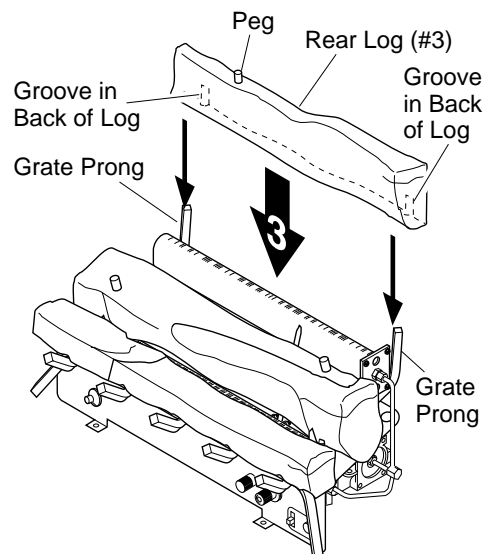

Figure 19 - Installing Rear Log (#3)
3. Slide the grooves in the back of the rear log (#3) against the rear grate prongs. Make sure the peg on the log is on top (see Figure 19).